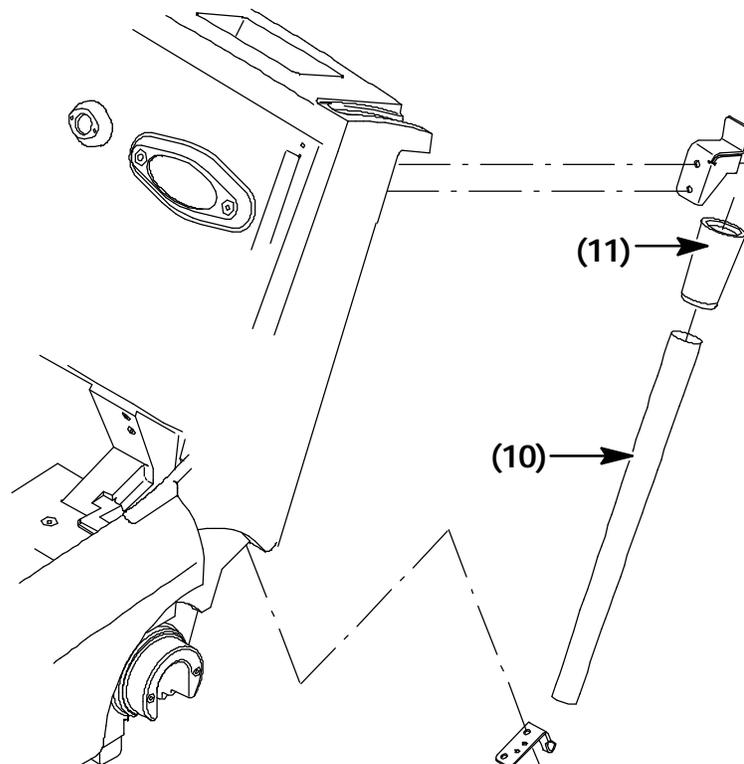

FIG. 4 Vacuum Wand Attachment Parts
20. Install the vacuum wand coupling (11) to the wand extension (10) as shown. Install assembly to existing brackets. (Refer to FIG.4)